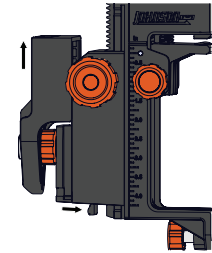

Figure 3 / Figure 3 / Figura 3
3. Remove the quick connector from the track mount accessory by pressing the release lever. See figure 3.
3. Retirez le raccord de l'accessoire de montage sur rail, en appuyant sur le levier de déblocage. Voir figure 3.